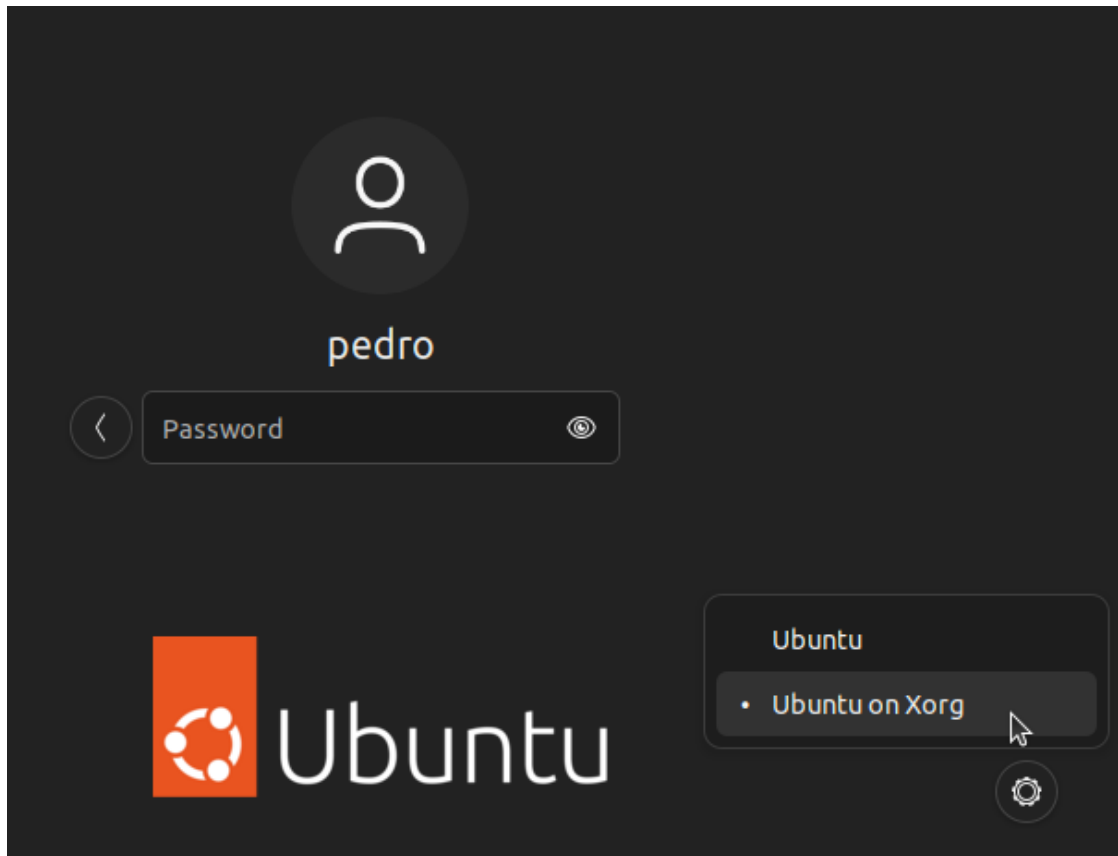

Figure 1.1: Choosing Xorg as the desktop session on Ubuntu 22.04 LTS
- Linux Ubuntu LTS – Certain aspects of Eclipse seem to work differently in Windows, Linux and macOS. While our plugins may work on any platform that has an Eclipse distribution, we will focus our efforts on fixing bugs that occur on Linux. We recommend using the desktop session using Xorg rather than Wayland.¹ This can be selected in the login screen by clicking on the cog icon on the right-hand side, and selecting *Ubuntu on Xorg* as shown in Figure 1.1.